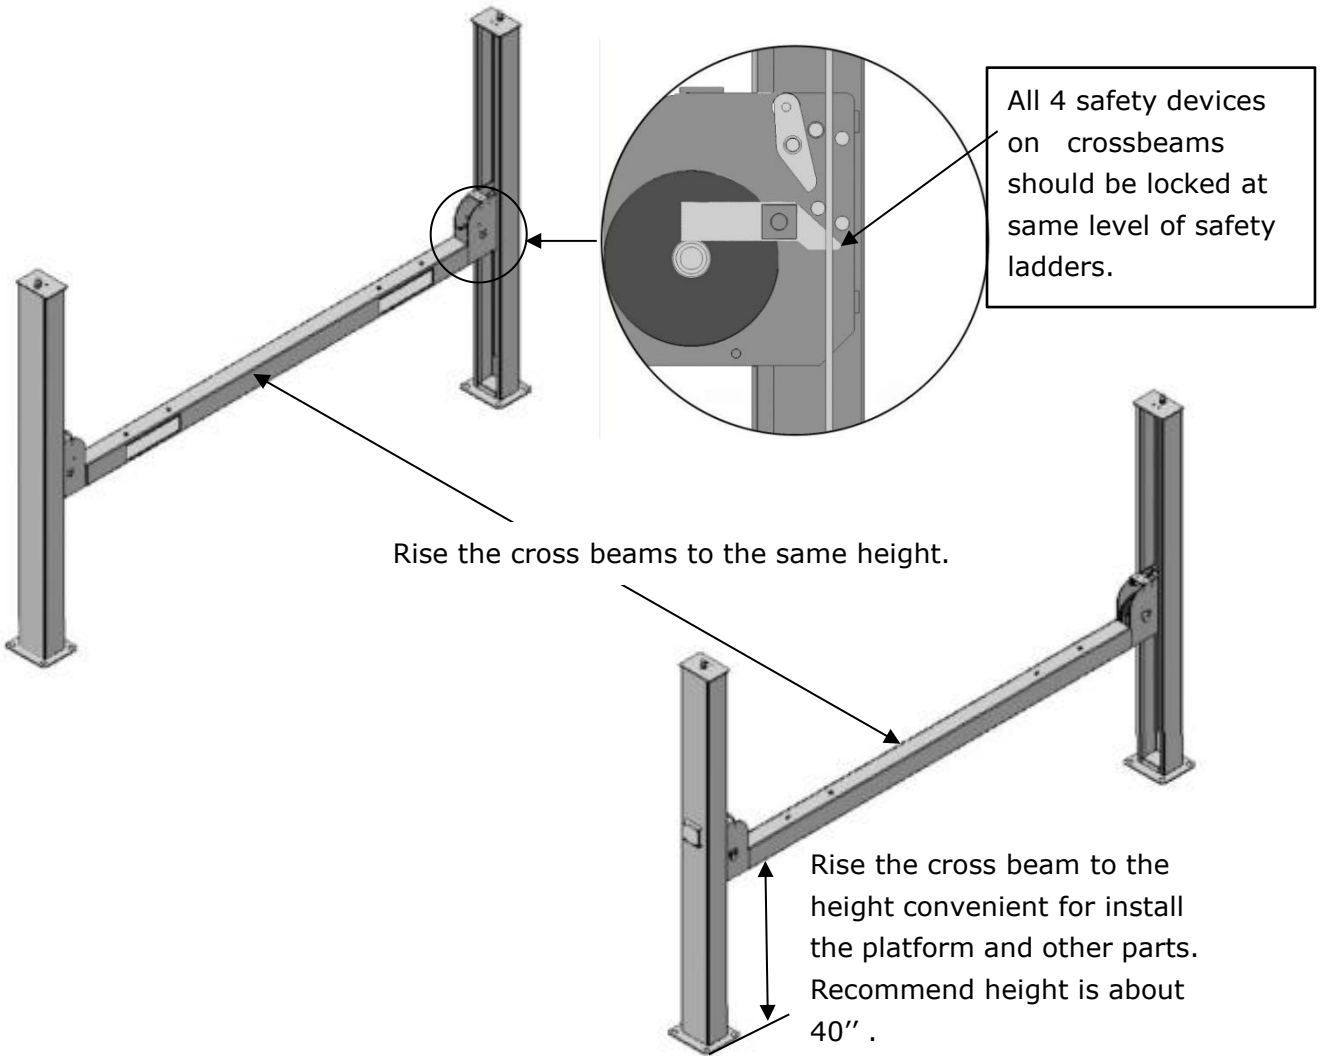

Fig.19
G. Put the cross beams at the same height (See Fig. 19).